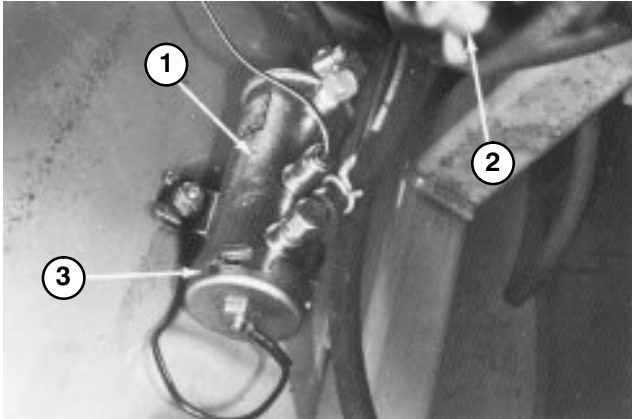
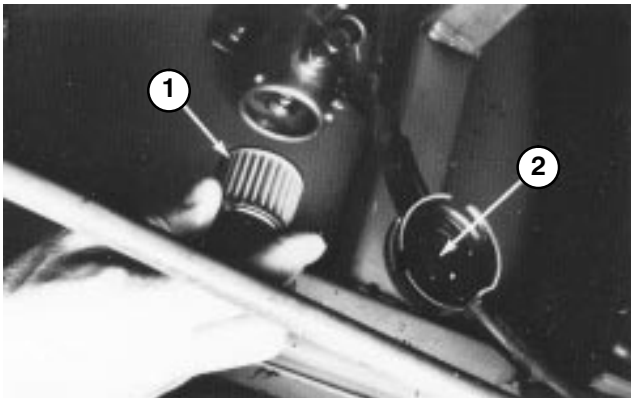

Figure 50
Figure 51
1. Fuel pump is located on inner frame bulkhead to left of drive coupling assembly (Fig. 50).
3. Place a drain pan under fuel pump and remove cover from fuel pump with 17 mm wrench (Fig. 50). Take care not to damage wire while removing cover.
4. Pull filter out of pump body (Fig. 51).
6. Clean magnet of any residue (Fig. 51), insert filter into body, and install cover (Fig. 50).